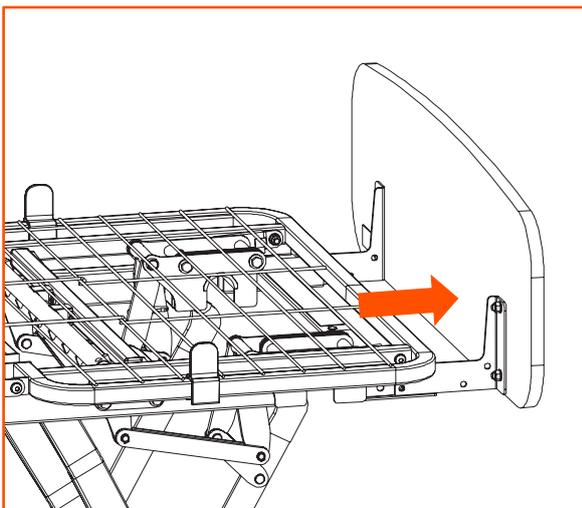
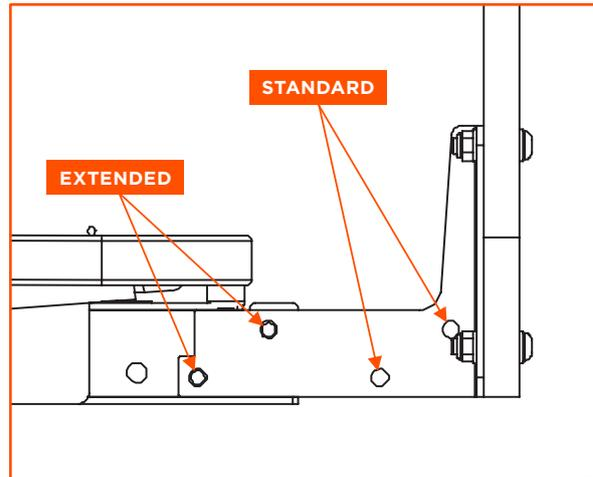

Figure 12.2
Figure 12.3
2. Slide the head/foot board outwards as shown in Figure 12.2 until the holes in the headboard bracket marked 'Extended' in Figure 12.3 line up with the mounting holes on the bed frame.